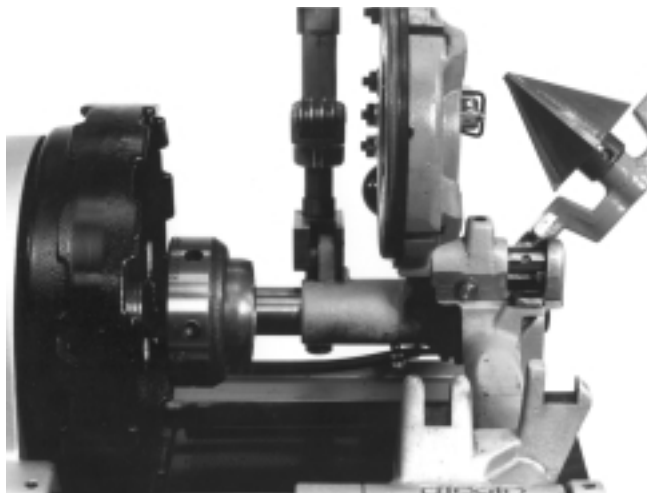

Figure 19 – No. 819 Nipple Chuck Body Installed
2. Place nipple chuck body (Figure 19) in power drive chuck. Machine chuck jaws must be aligned in gripping grooves of #819 chuck body.